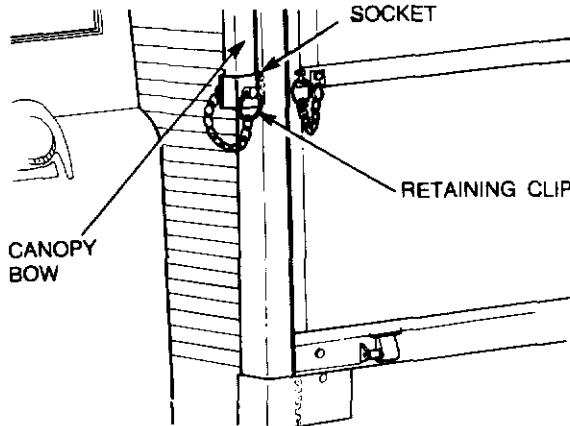

Figure 2-5 Canopy bow dummy socket
- c. Dummy sockets have been provided for stowing the rear canopy bow forward of the front canopy bow (see Fig. 2-5).